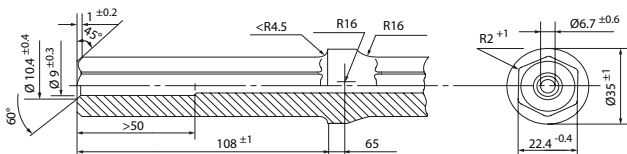

Figure 2
It is recommended that the YB2003-78 hex drill rod should be used. If you need to make your own drill rod, please refer to the dimensions on figure 2 and follow the instructions as below.
- The water tube hole holds a tolerance of 1mm on center as shown on Figure 2.